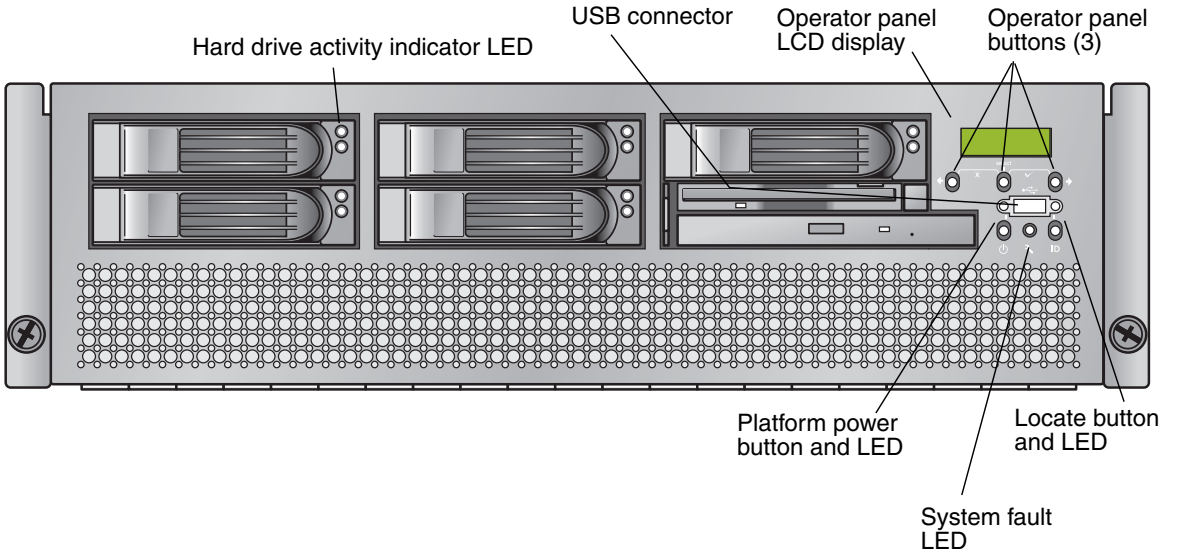

FIGURE 1-17 Sun Fire V40z Server Front Panel
- If you have a Sun Fire V40z server, push and release the platform power button on the server front panel (see FIGURE 1-17).